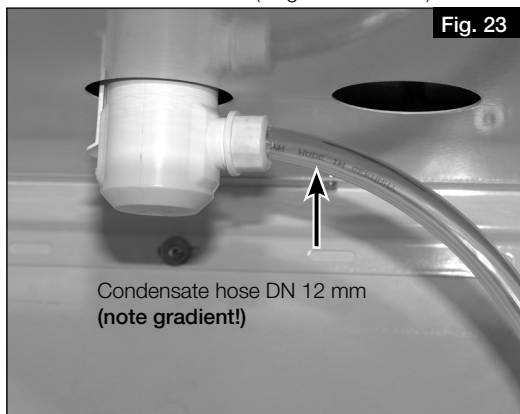

Fig. 23
6. Connect condensate hose (length max. 1.5 m) to the building drainage system (see Fig. 23).